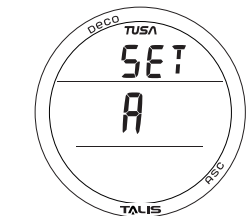

Fig. 30 - SET ALARMS LEAD-IN
- > A & S (2 sec), while viewing the Set Gas screen - to access the SET A lead-in screen (Fig. 30).